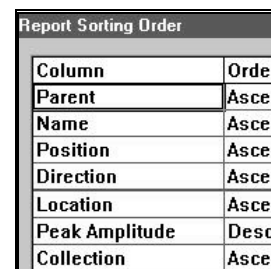

Figure 9
- **Sorting** – This will dictate in what order the report contents will be listed. The setup we use is shown in Figure 9 and is the most convenient.